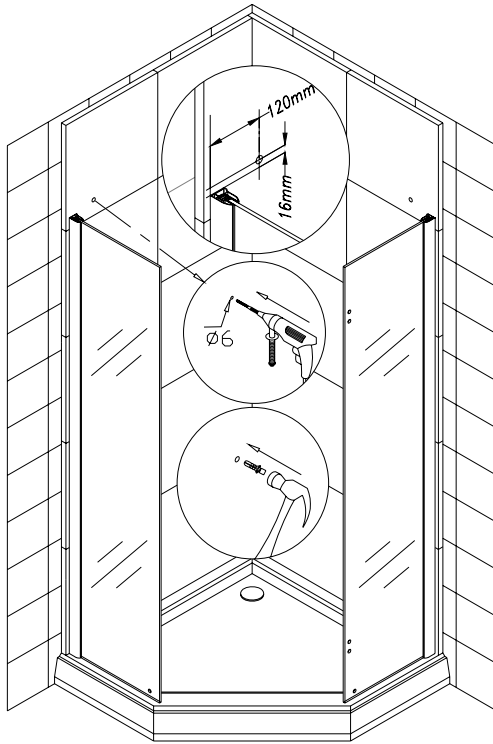

Fig 3
4. Place the **support bar (06)** over the stationary glass. Assemble should be paralleled to the floor and the wall mounting bracket of assemble has been flat with the wall. Mark the hole on the wall through the mounting bracket. Drill holes on the wall at this mark, insert anchor and secure bracket assemblies to the wall. Complete the assembly by inserting of plastic gaskets between brackets and glass and tightening the screws. Do not fasten it very tight as you may need to adjust it (fig 3&4).